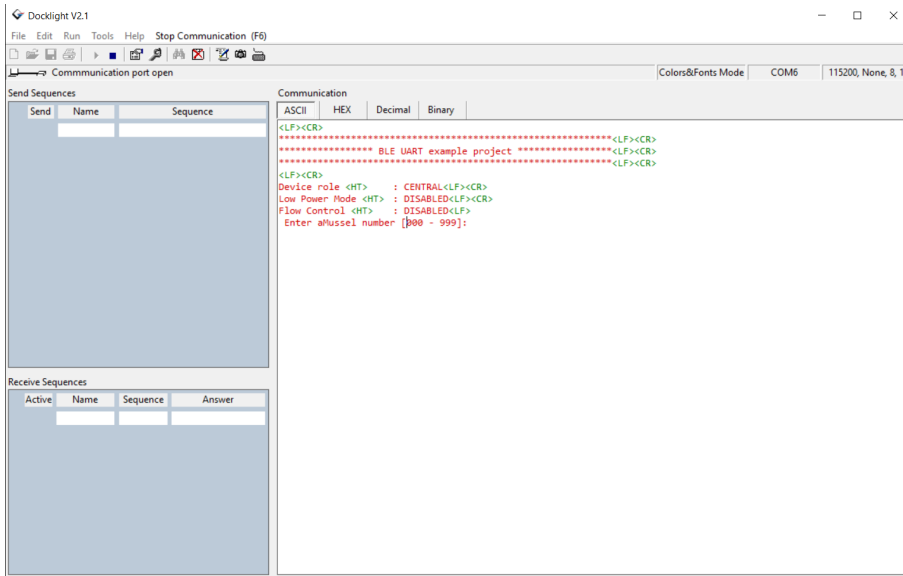
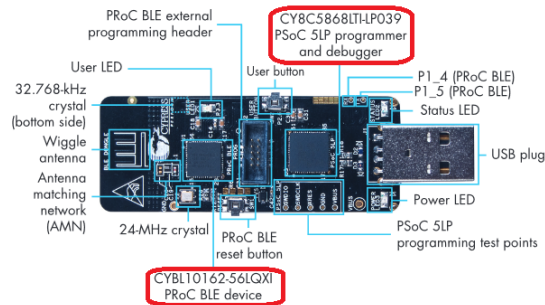

Figure 1.5: BLE bridge status
Figure 1.6: CY5670 USB Dongle
4. When connected to BLE dongle, you should see the output in your serial communication program as presented in Figure 1.5. If the output is not there or the program is stuck for any reason, you can always reset it by pressing the user button on dongle (see Figure 1.6).